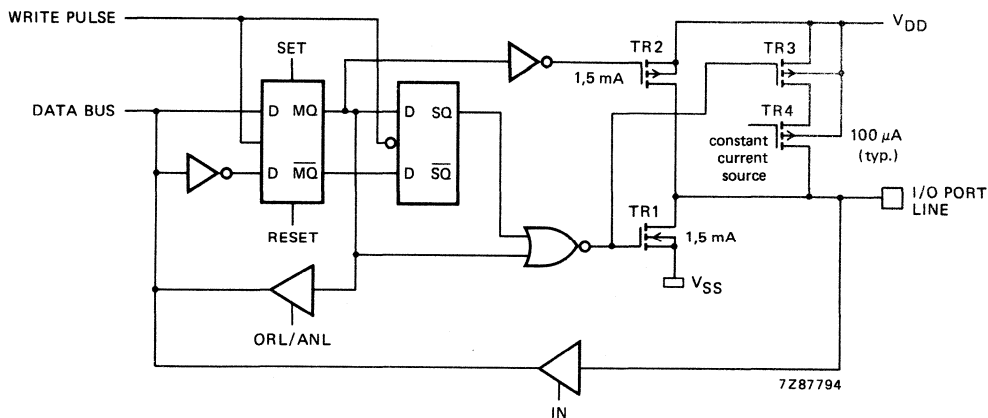

Fig. 13 Push-pull output.
- Option 3- PUSH-PULL OUTPUT; drive capability of the output will be 1,5 mA (typ.) at $V_{DD} = 3\ \text{V}$ in both polarities. To avoid a large current flowing through the output transistors during the input mode, these push-pull pins must only be used as outputs (Fig. 13).